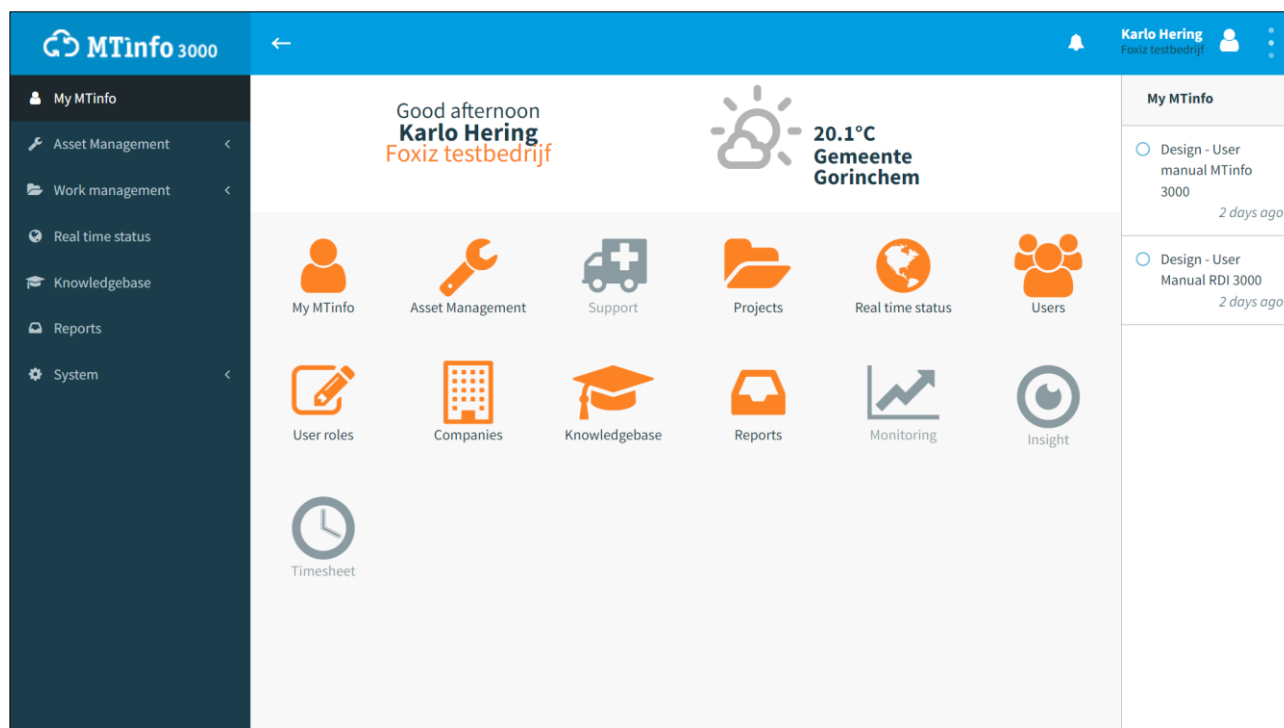

Figure 5-3: Dashboard
1. Go to the Dashboard (Figure 5-3) and click Companies.
1. Go to the Dashboard (Figure 5-3) and click Users.